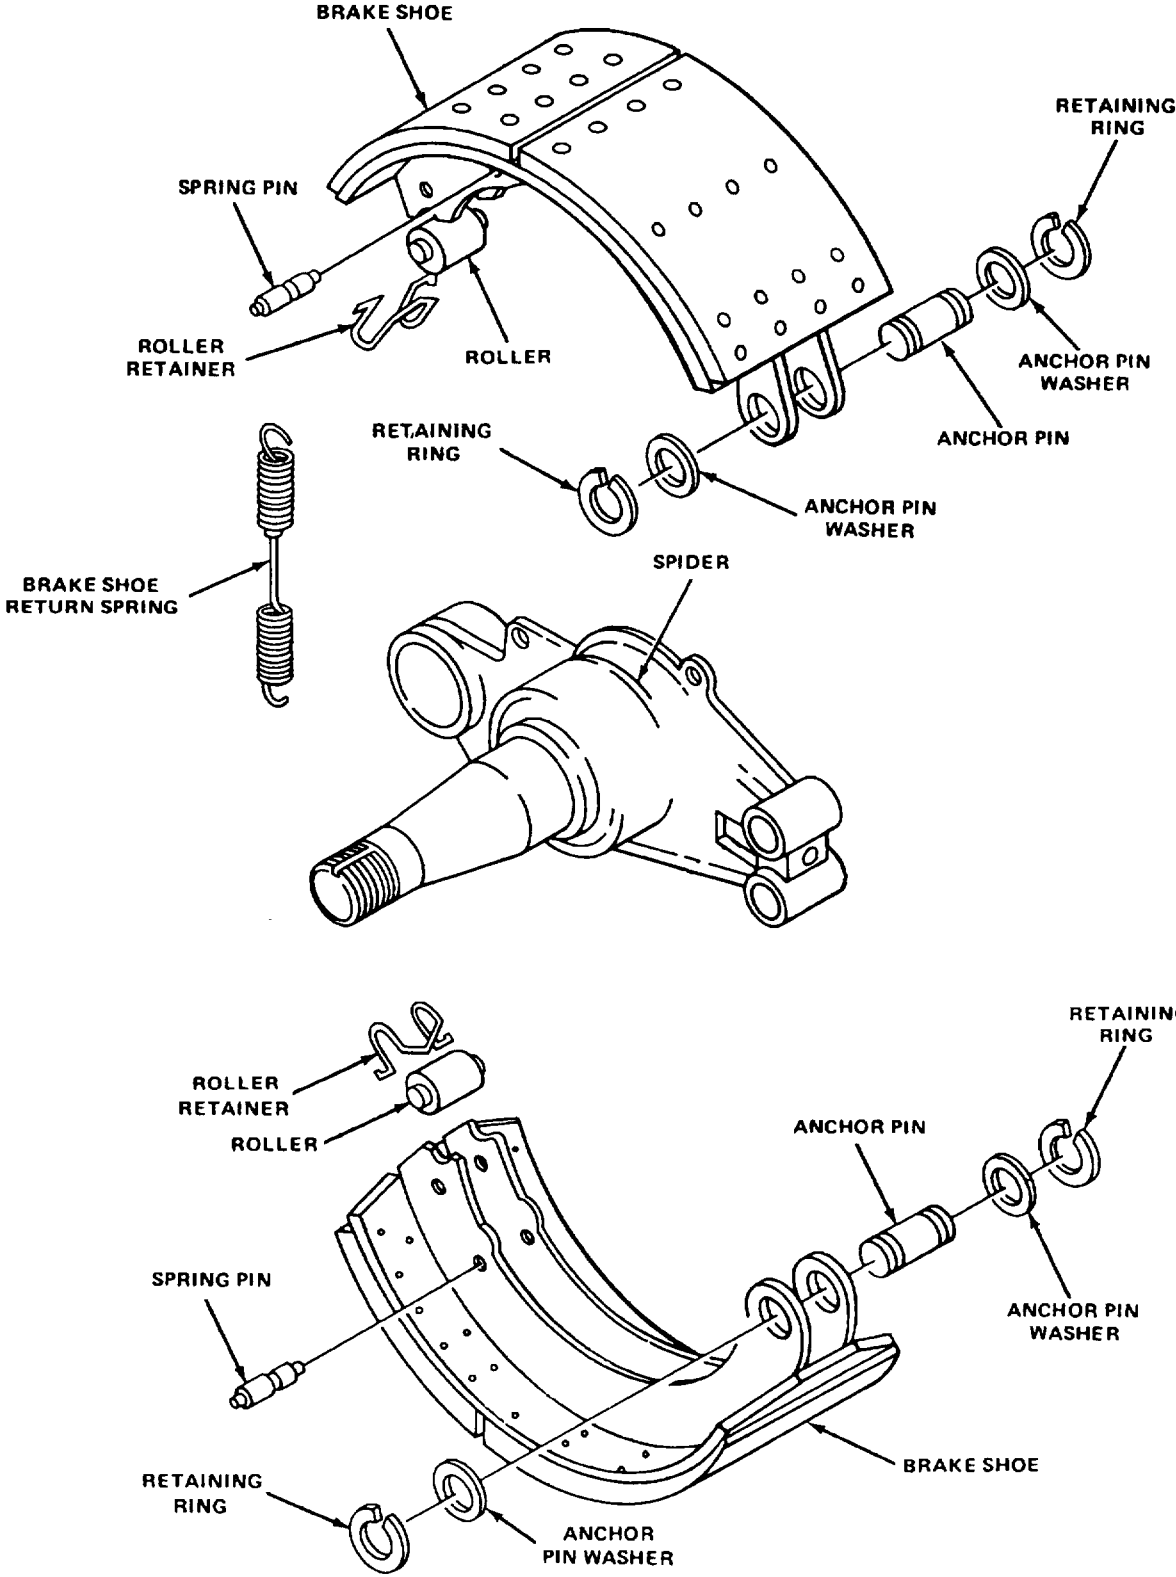

Figure 4-47. Removing and Installing Brake Shoes
(1) Remove wheel and drum assembly, para 4-51.
(2) Using brake spring pliers, remove brake shoe return spring, fig. 4-47.
(3) Remove anchor pin retaining rings and anchor pin washers.
(4) Drive upper and lower anchor Pins from rear of brake shoe.
(5) Remove brake shoes.
(6) Remove roller retainers and rollers from brake shoes.
(7) Remove spring pins from brake shoes.
(8) Clean anchor pins, rollers, roller retainers, spring pins, and brake shoe return spring with dry cleaning solvent (item 11, Appendix E). Dry the parts with low pressure compressed air.
(9) Refer replacement of brake linings and refacing of the drums to direct support maintenance.
(1) Install spring pins on brake shoes. fig. 4-47.
(2) Install rollers and roller retainers on brake shoes.
(3) Place brake shoes into position on brake spider, and install upper and lower anchor pins and anchor pin washers.
(4) Install anchor pin retaining rings on upper and lower anchor pins.
(5) Using brake spring pliers, install brake shoe return spring.